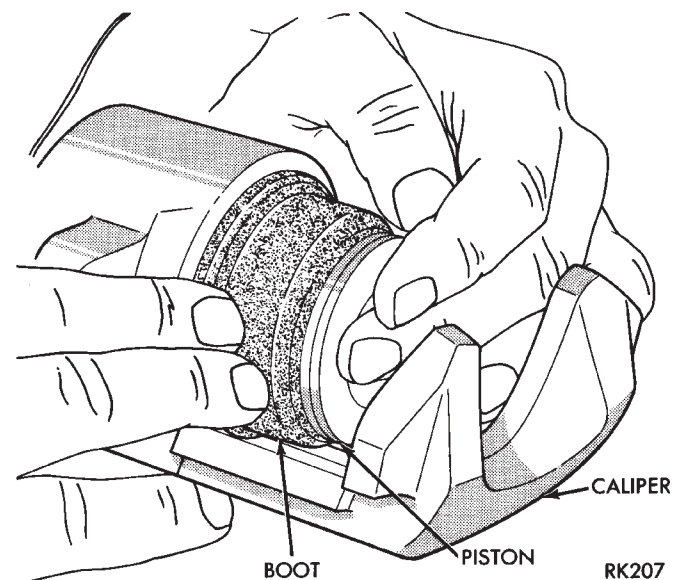

**Fig. 164 Installing Piston Into Caliper Bore**
(3) Coat new piston boot with clean brake fluid leaving a generous amount inside boot.
(4) Position dust boot over piston after coating with brake fluid.
(5) Install piston into caliper bore pushing it past the piston seal until it bottoms in the caliper bore (Fig. 164).